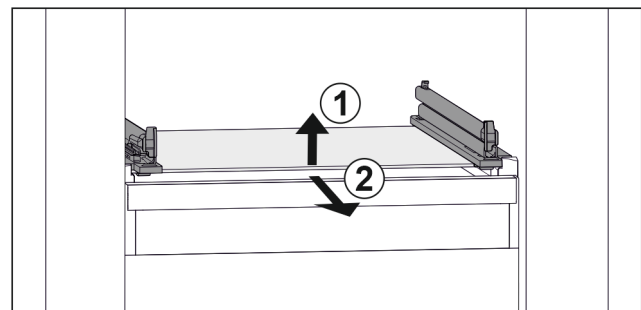

Fig. 106 Example illustration of glass shelf
- ▶ Lift glass shelf at the front. Fig. 106 (1)
- ▶ Remove glass shelf to the front. Fig. 106 (2)